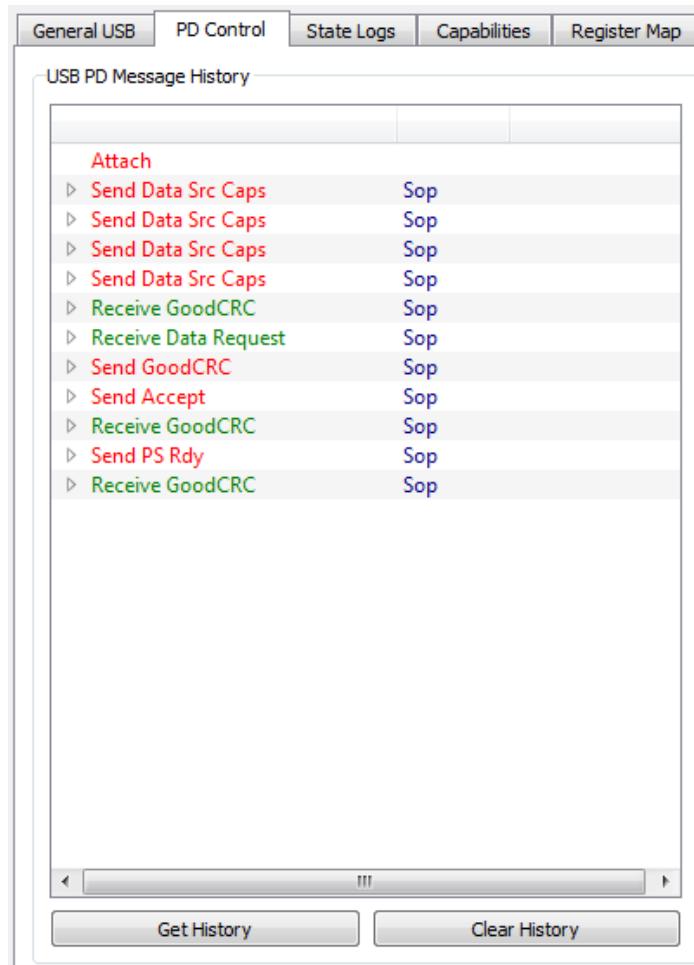

Figure 6 - PD Control tab
- e. View the PD Control tab and verify that the Send Data Src Caps messages occurred, as in Figure 6.